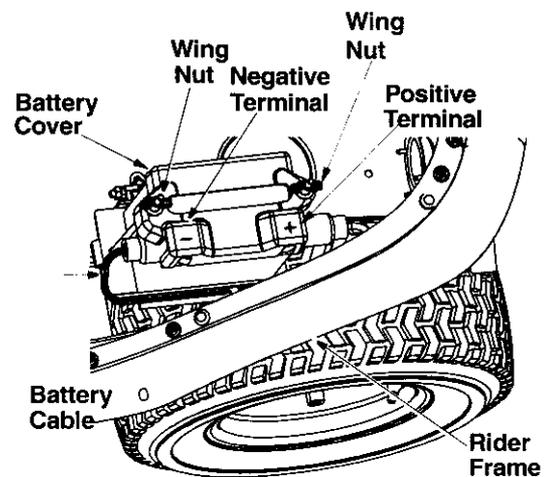

Figure 3
The battery is located under the hood assembly above the left rear wheel. Refer to Figure 3.
- Remove both wing nuts securing the battery and cover to the battery hold-down rods. See Figure 3.
- Attach the red battery cable to the positive terminal (marked +), and the black battery cable to the negative terminal (marked -) on the battery. See Figure 3.